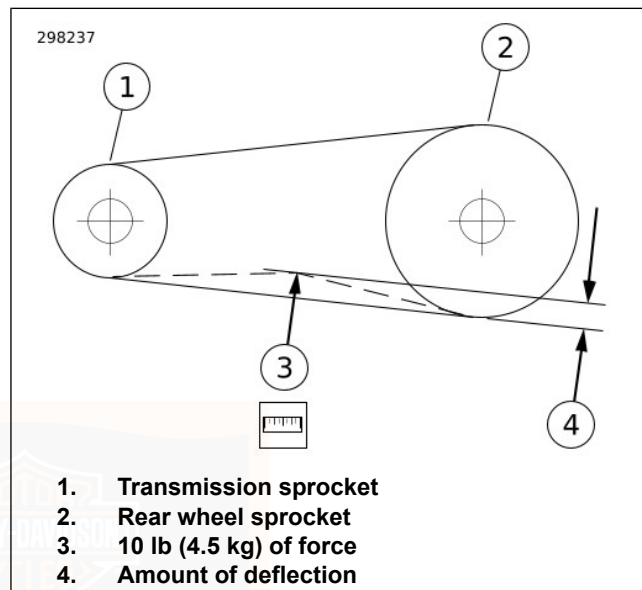

Figure 68. Checking Belt Deflection
- b. **All other models:** See Figure 68. Measure amount of deflection (4) while holding gauge steady.